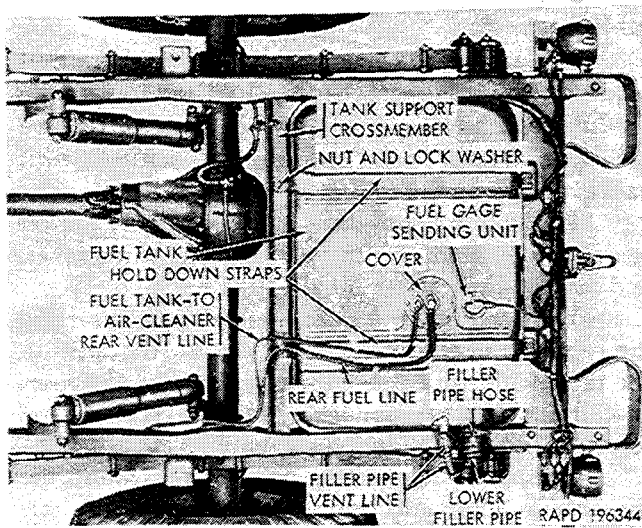

Figure 2-109. Fuel tank—top view (vehicle body removed).
(1) Install the parts that were removed from the tank (a (7) above), using new gaskets for the lower filler pipe, the fuel gage sending unit (fig. 2-109), and the fuel tank cover; and replacing any parts that are unfit for further service.
(4) Position the two hoses on the upper and lower filler pipes and upper and lower vent lines. Position the hose clamps and tighten the hose clamp screws.
(5) Working through the inspection hole in the floor, connect the fuel tank rear vent line, the rear fuel line, and the fuel gage sending unit cable (fig. 2-109).
(6) Install the inspection hole cover (para 2-84 b (4)).
(7) Close the drain cock and fill the fuel tank.
(1) Remove the floor panel inspection hole cover (*b*(1) above).
(2) Disconnect the fuel tank-to-air cleaner rear vent line at the air cleaner inlet valve fitting.
(3) On vehicles with the inlet valve in the fuel tank cover, disconnect the rear fuel line at the elbow in the cover (fig. 2-109).
(5) Clean the gasket surface of the cover on the fuel tank, being careful to prevent dirt from dropping into the fuel tank.
(6) If the vent line fitting in the air inlet valve (or cover) is not damaged, remove the fitting. If the fuel line was disconnected for removal of the cover, also remove the fuel line elbow.
(7) Apply a light coating of liquid type gasket cement to both sides of a new gasket (air inlet valve or fuel tank cover, as required) and install the gasket.
(8) If the inlet valve is a separate unit, install the valve on the cover, and install the six lockwashers and screws.
(9) If the inlet valve is a part of the fuel tank cover, install the cover on the tank with the fuel and vent line openings in proper position for connecting the lines (fig. 2-109). Install the 10 special lock-washer screws.
(10) Install a tube elbow in the cover or a tube connector in the air cleaner inlet valve. Tighten fittings. If the fuel line elbow was removed, install a tube elbow in the cover.
(11) Connect the rear vent line to the elbow in the fitting in the inlet valve or cover. If the fuel line was disconnected ((3) above) connect the rear fuel line to the fuel line elbow. Tighten the line nuts.
(12) Install the floor panel inspection hole cover (b(6) above).